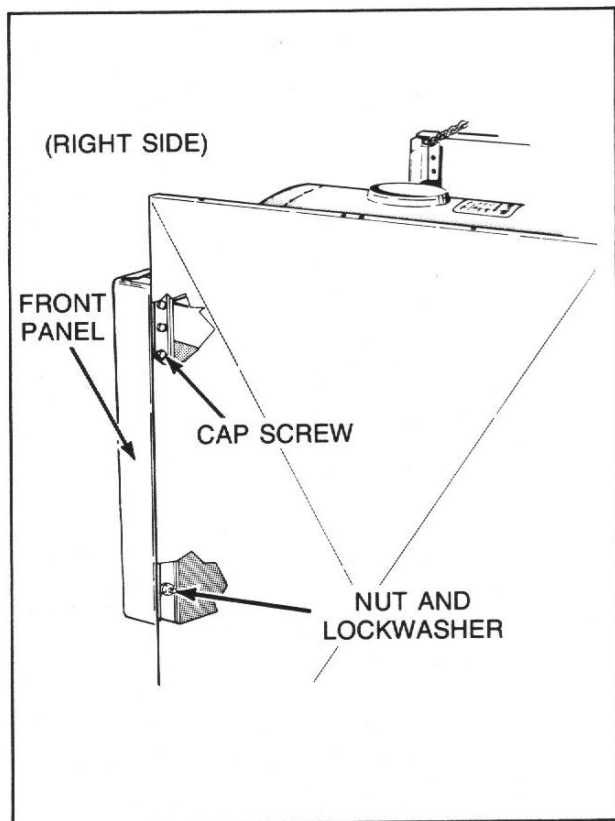

Figure 12
- i. Remove nut and lockwasher (bottom), and capscrew (top), *Figure 12*, holding front panel assembly to right leg.
- k. Remove nut and lockwasher (bottom), and cap screw (top), *Figure 12*, holding front panel assembly to right leg.
- i. Remove nut and lockwasher (bottom), and cap screw (top), *Figure 12*, holding front panel assembly to right leg.
- Remove nut and lockwasher (bottom), and cap screw (top), *Figure 12*, holding front panel assembly to right leg.